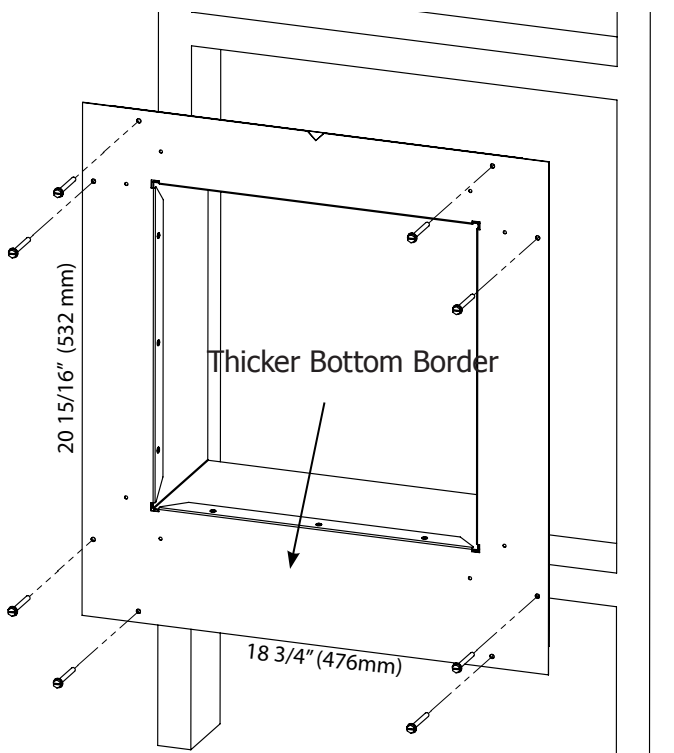

Figure 5B: Exterior Thimble Installation
3. Fasten the exterior thimble, using standard wood screws to the framed opening. Making note to install the thimble with the thicker border at the bottom. Refer to Figure 5B. Wall cladding can now be applied on top of the thimble while leaving only the opening for the blower termination installation.